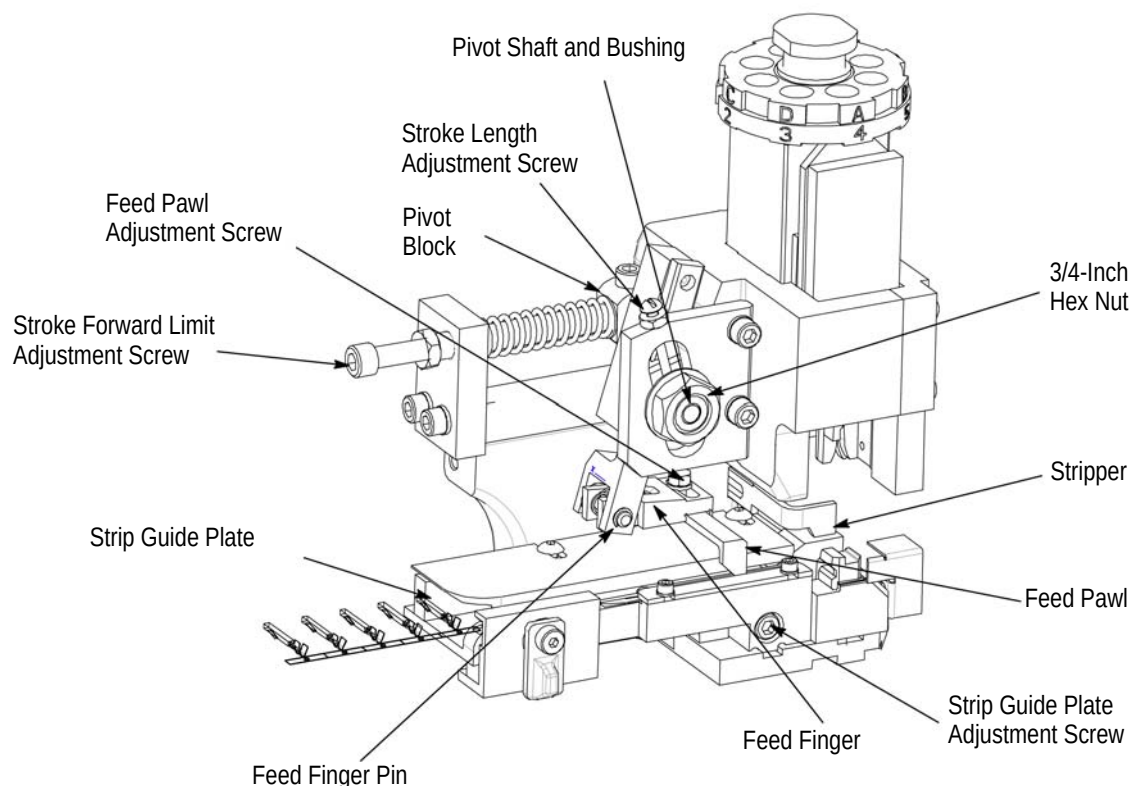

Figure 2
3. Loosen screw on top of pivot block (see Figure 2). Turn the stroke forward limit adjustment screw COUNTERCLOCKWISE to move the forward limit toward anvil, or CLOCKWISE to move the forward limit away from anvil. Tighten screw on top of pivot block.
#### a. Applicators with mechanical-feed systems (Figure 2) -
- 1) Loosen slightly the 3/4-in. hex nut, on side of applicator, to allow the pivot shaft to move in slot (see Figure 2).